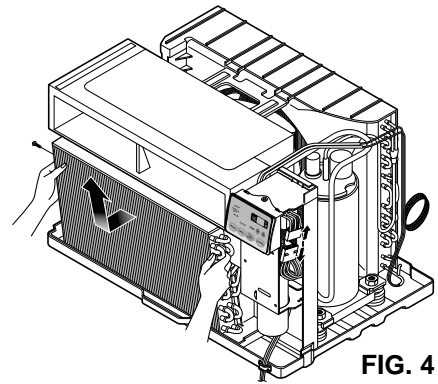

FIG. 4
3. Remove the 2 screws which fasten the evaporator at the left side and the right side. (See Fig. 4)